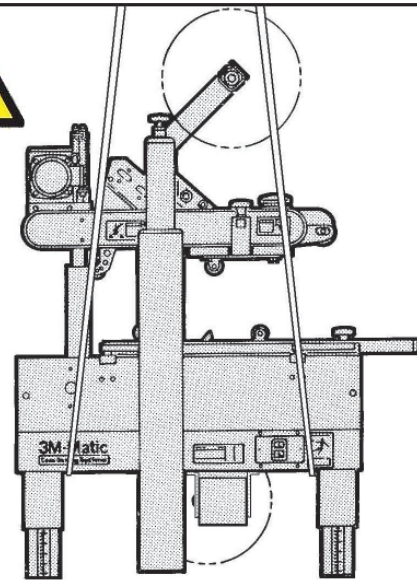

Figure 3-6
- To reduce the risk associated with muscle strain (Figure 3-6):
- Use the appropriate rigging and material handling equipment when lifting or repositioning this equipment (Figure 3-6)